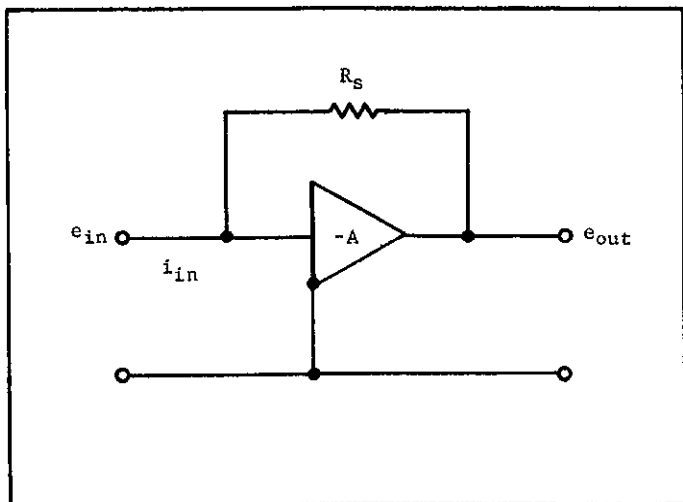

FIGURE 4. Simplified Diagram for Ammeter Circuit.
a. The amplifier has matched insulated-gate field-effect transistors followed by a differential transistor stage, a transistor amplifier and a transistor output stage. Figure 4 shows the simplified circuit for the Picoammeter.